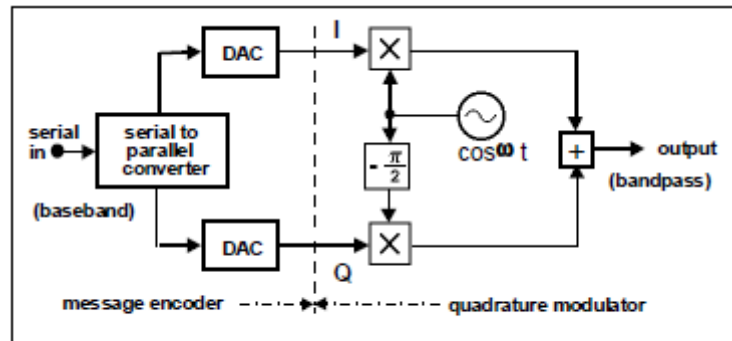
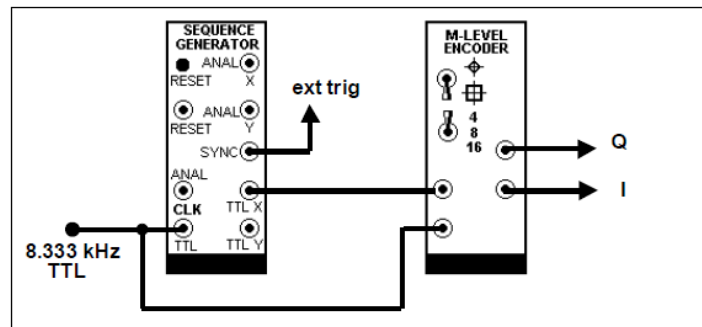

Figure 1: an m-QAM modulator.
Figure 4: the encoder with 4-QAM selected
As a reminder, a block diagram of a quadrature modulator is shown in Figure 1. This configuration appeared in the experiment entitled Phase division multiplex (within Volume A2 - Further & Advanced Analog Experiments), and in Weaver's SSB systems. It is common to many communications systems, and will be seen again in later digital experiments.
To generate the two multi-level analog signals mentioned above the input serial binary data stream is segmented into frames (or binary words) of L bits each, in a serial-to-parallel converter. For a particular choice of L there will be $m = 2^L$ unique words. From each of these words is generated a unique pair of analog voltages, one of which goes to the I-path, and the other to the Q-path, of the quadrature modulator. A typical arrangement is illustrated in block diagram form in Figure 1 above. No band limiting is shown in Figure 1, but in practice this would be introduced either at the input to each multiplier (possibly in the form of a pulse shaping filter), or at the output of the adder, or both.
The arrangement to be examined first is that designated as the ‘message encoder’ of Figure 1, together with a message source. These are modelled in Figure 4 below. As shown, the input is a serial binary data stream from a SEQUENCE GENERATOR. The multilevel **I** and **Q** output signals would go to the quadrature modulator (typically preceded by identical low-pass filters).
- T2.** Patch up the arrangement of Figure 4. Start with a short sequence from the SEQUENCE GENERATOR (both toggles of the on-board switch SW2 should be UP), and select 4-QAM from the M-LEVEL ENCODER.